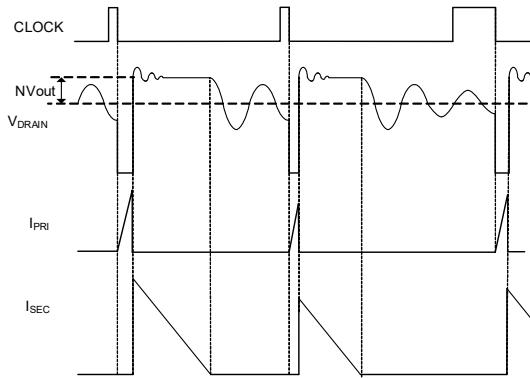

Figure 22. Valley Switching
**Constant frequency PWM mode:** In full load, the IC regulates the output voltage with an error amplifier (TL431) through the opto-coupler and peak current control. The feedback pin is the error output opto-coupled from the secondary side. Its voltage level controls peak current in every switching cycle. The turn-on point is set by the internal fixed frequency oscillator and valley detection circuit, which senses the voltage on the auxiliary winding. If the valley is not detected, it waits for the nearest valley to turn on the FET. The valley detection is illustrated in Figure 22. Because the ringing frequency usually ranges from 500kHz to 1MHz, the possible half ringing cycle delay only causes ~5% frequency variation.